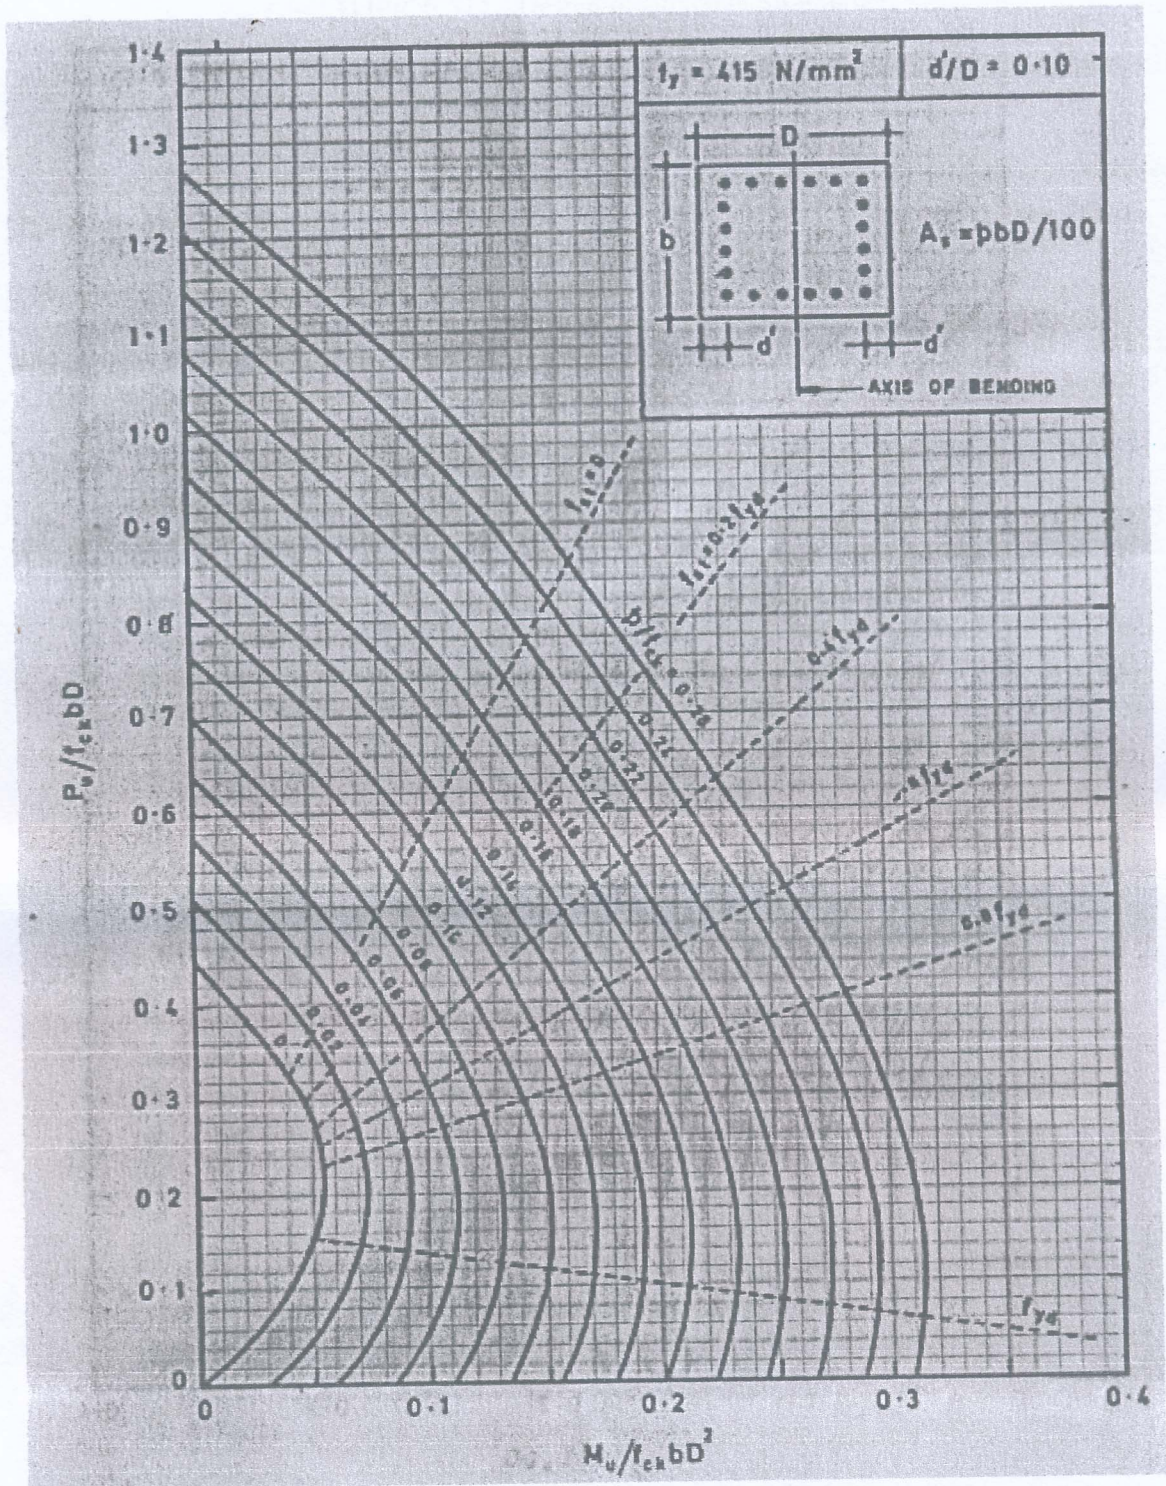

Fig. 1
- Q. 3' A square R.C. column 350 mm  $\times$  350 mm in size and 4.0 m long is hinged at both the ends and is supposed to carry an axial load  $P_u = 900$  kN along with bi-axial moments  $M_x$  and  $M_y$  as 60 kNm. Assuming 8#20 mm dia. bars of Fe 415 steel grade, provided uniformly along four edges, and M20 mix concrete with clear cover of 40 mm, check the safety of the column as per equation suggested by IS 456:2000. Use chart as shown in Fig. 1. **CO-3 [15]**